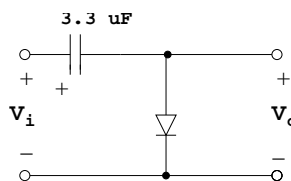

Figure 4.
8. Construct the clamped capacitor circuit (Figure 4) making sure the polarity of both the capacitor and the diode are correct. Test it with 4 V peak-to-peak sine input. Describe the effect of the circuit (account for the voltage drop across the diode in your explanation). Add an offset to the sine input, what is the effect? Why?